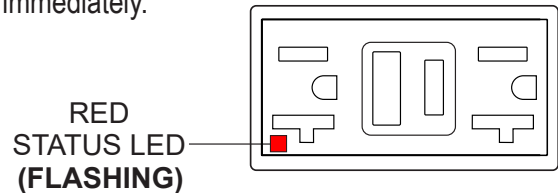

Figure 75. GFCI Receptacle (RED Flashing LED)
6. If the status LED (Figure 75) is **flashing (RED)**, **DO NOT** use the GFCI receptacle and replace it immediately.